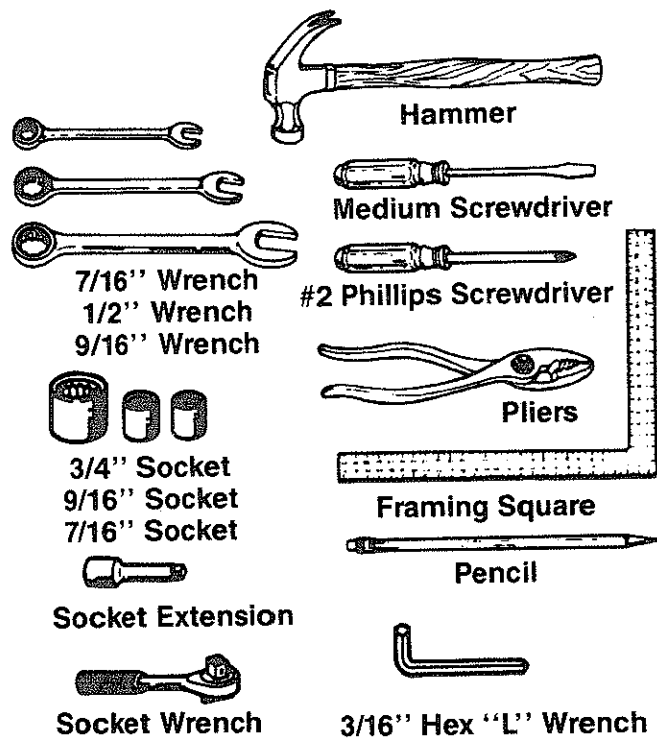

Fig. 1 - Tools Required
1. Identify the tools required for assembly. Make sure that you have all of the tools you will need. (Figure 1)